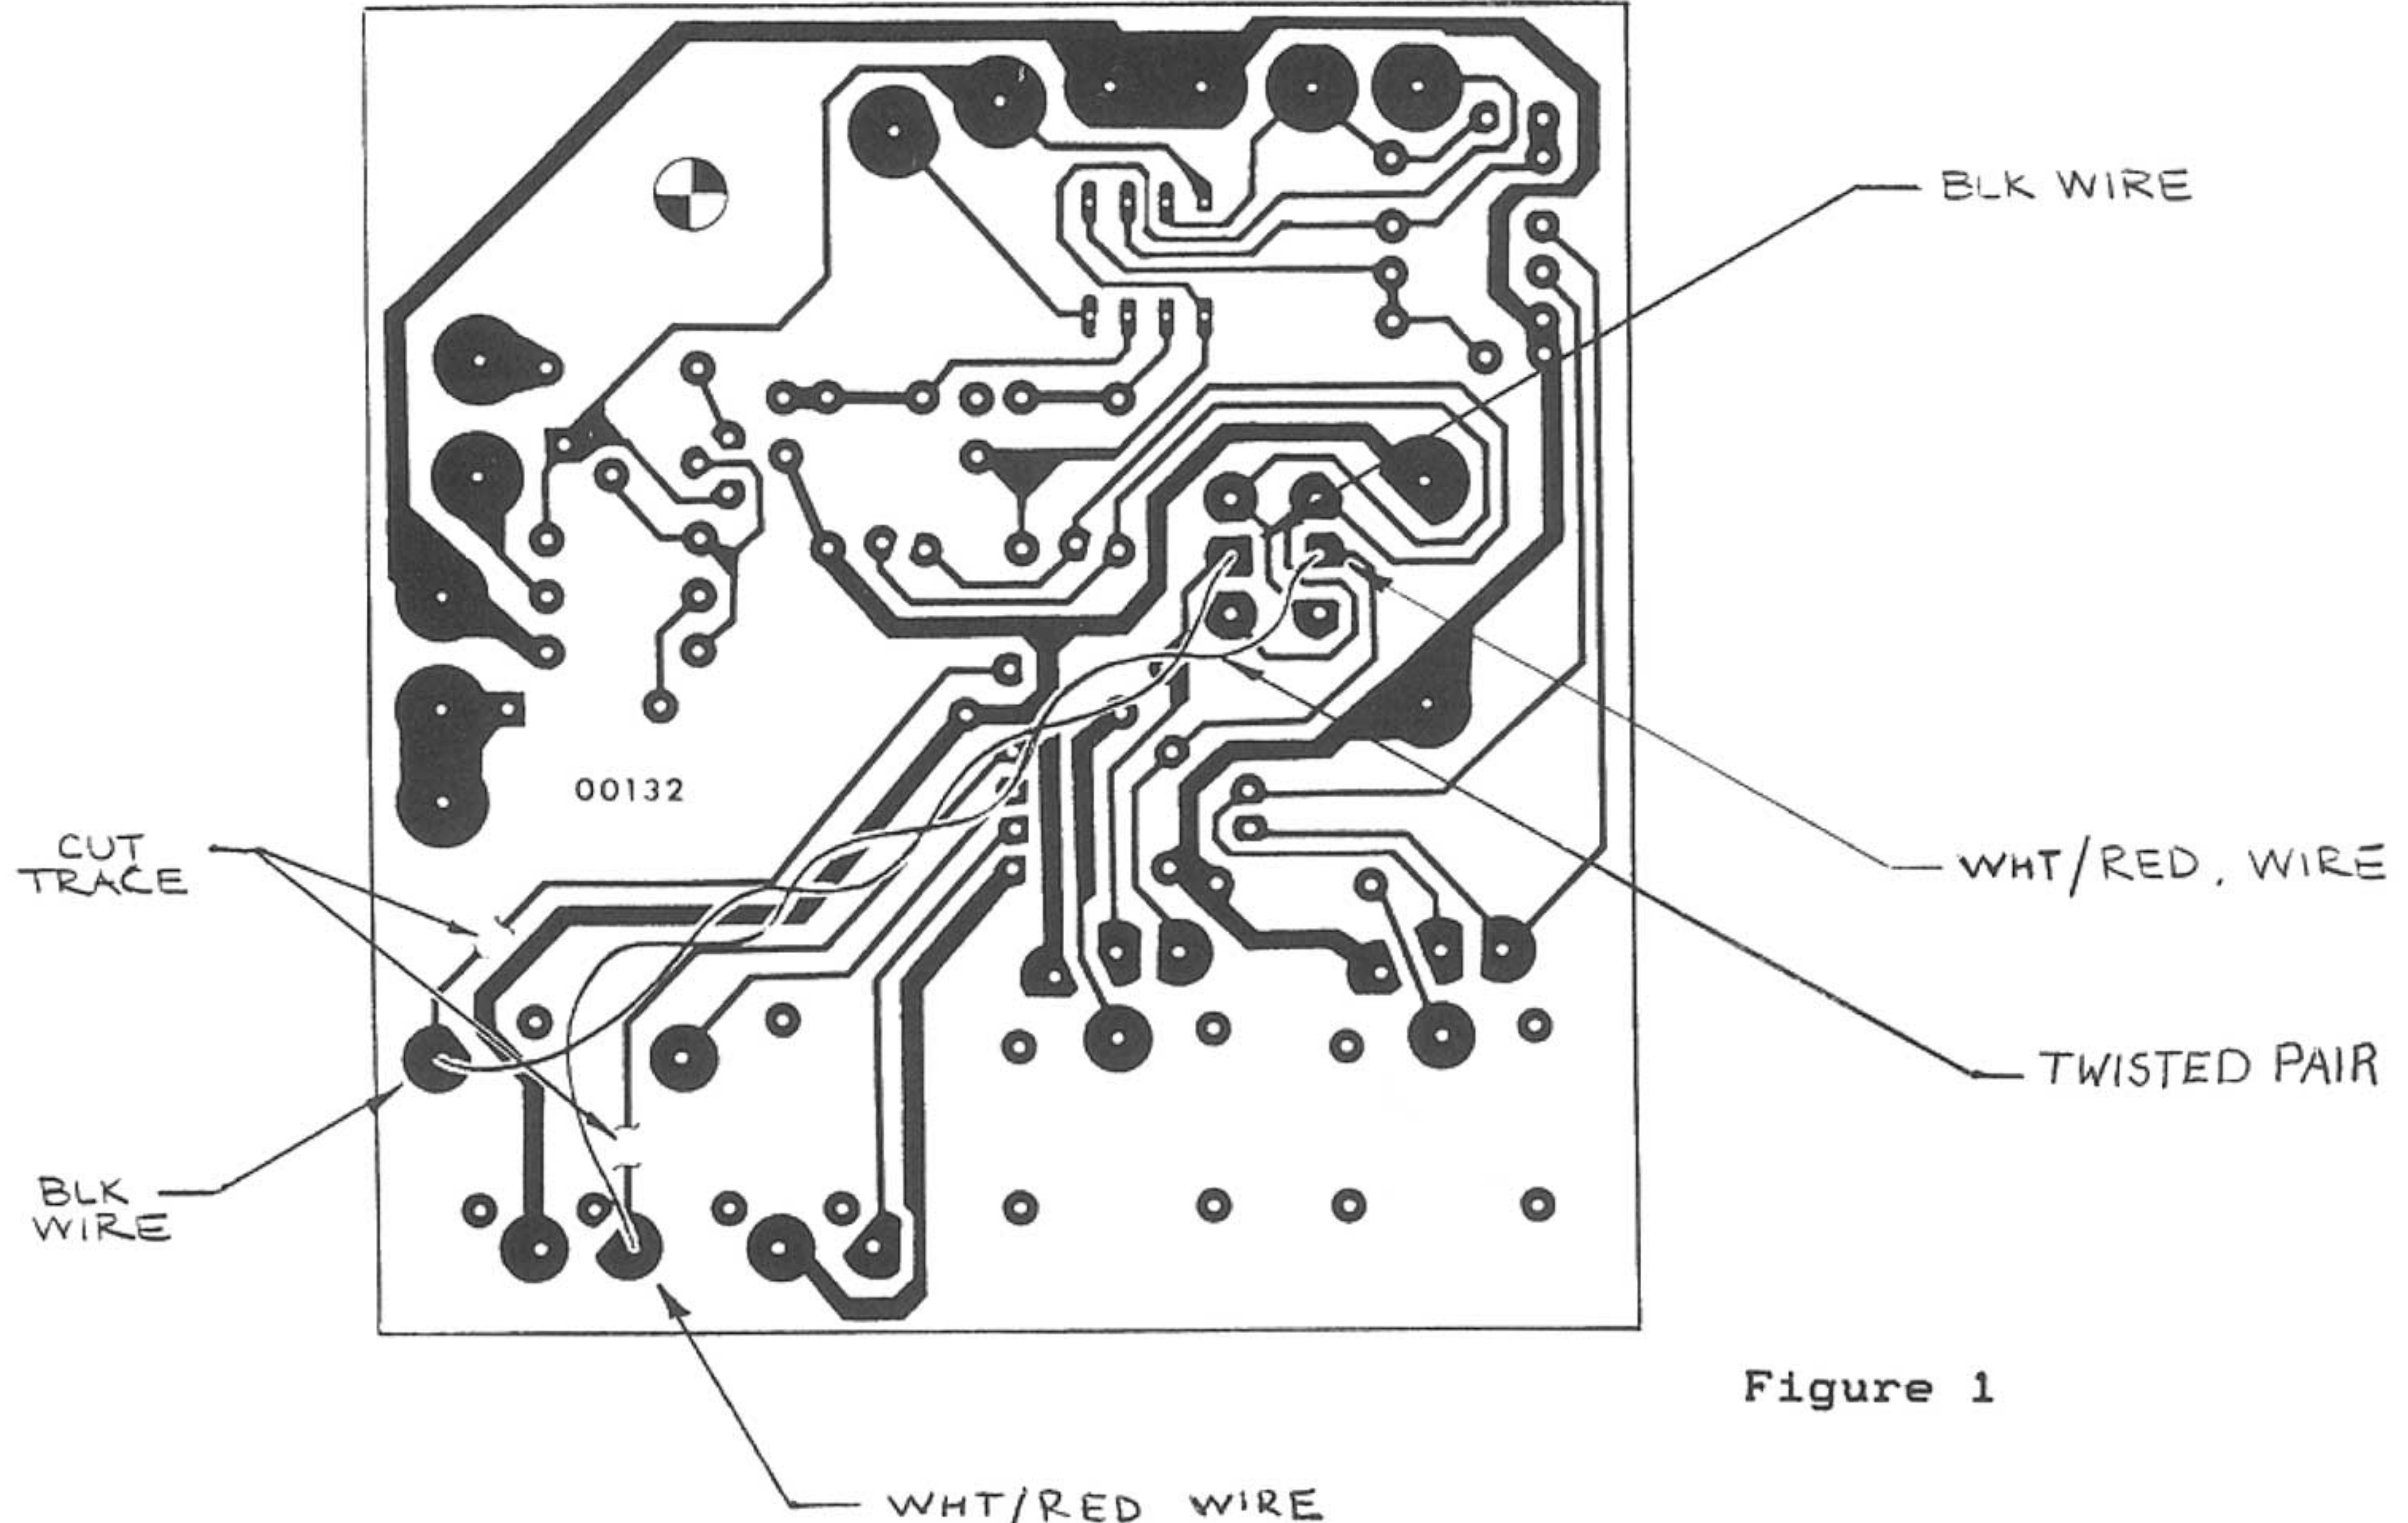

Figure 1
3. Cut traces leading from the tip and ring of J4 (left channel input 1/4" jack). See Figure 1.